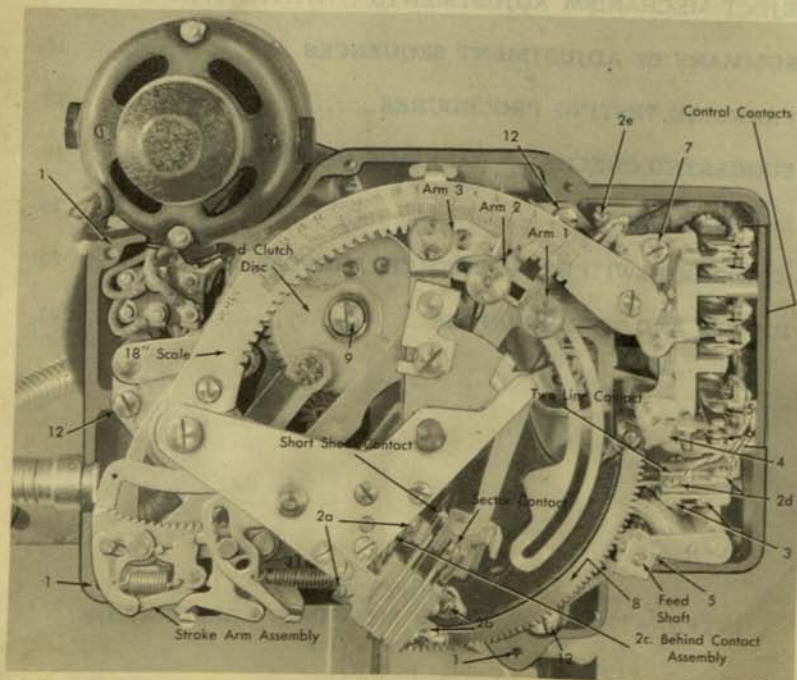

Figure 1
1. Adjustable front guide assembly (G) Fig. 1.
2. Pressure plate (A) Fig. 1.
3. Stacker plate (F) Fig. 1.
IN ORDER that adjustments may be made on the line spacing mechanism, it is best to remove the center casting and ejecting mechanism as an assembly. Refer to Figures 1 and 2 for the following removal procedure: